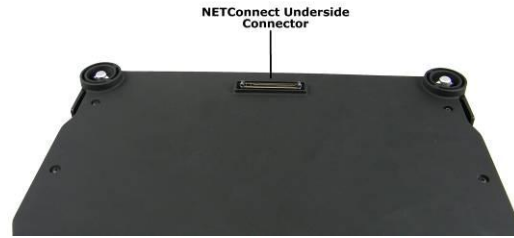

Figure 3. NETConnect Underside Connector
4. Set the NETConnect on top of the Dossier tray and make sure the NetConnect underside connector aligns with the Dossier tray's connector as shown in Fig. 3 below: